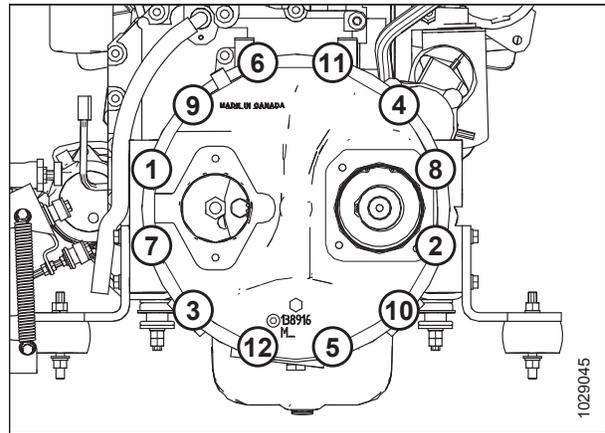

Figure 3.39: Gearbox Hardware Torque Sequence
- After applying the silicone, apply high-strength threadlocker (Loctite® 262 or equivalent) to all bolts (A), (B), (C), and (D), **EXCEPT** bolts (C)*. Install bolts (A), (B), (C), and (D), and washers around the perimeter of the housing. Wipe off any silicone that may get on the bolts. Torque bolts to 55 Nm (40 lbf-ft) according to the torque sequence shown in Figure 3.39, page 30.